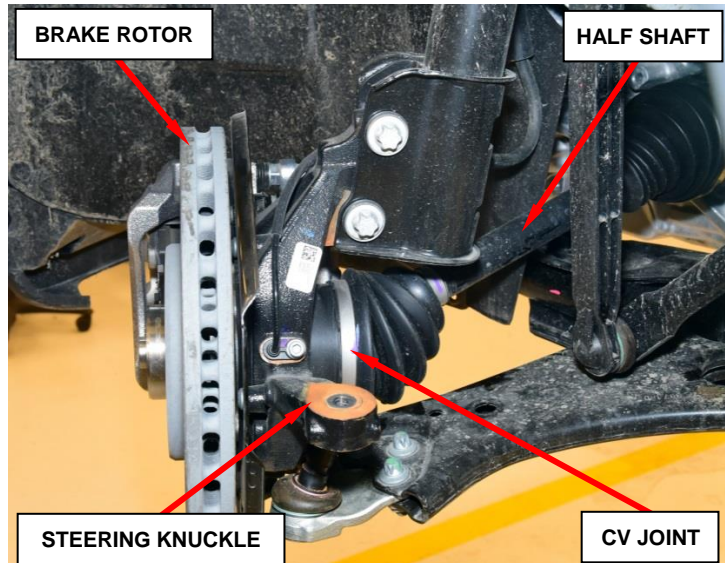

Figure 7 – Half Shaft CV Joint
8. Disengage the half shaft CV joint from the wheel hub (Figure 7).
14. Position the half shaft outer CV joint end into the wheel hub (Figure 7).